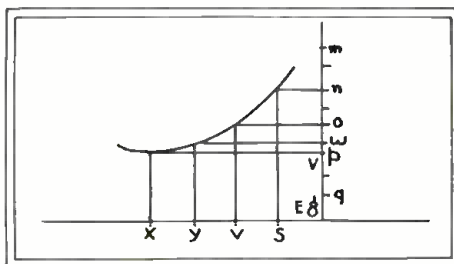

Fig. 7
If we plot all the points for various grid potentials, we obtain a loop as our dynamic or operating characteristic, as shown dotted in the graph. Now, obviously, operating along a loop means that the plate current does not exactly follow the grid-voltage variations. Fig. 7 makes this more clear. Note here that, if we change the grid voltage by one unit (say, from x to y), the plate current may change less than a unit (or from p to r only). But, on the contrary, at some other point of the curve, a change of one unit of grid voltage (as from r to s) may
*The two tubes create the two waves A-B; each, as a result of the distortion explained in Fig. 7, has a distortion component added to the fundamental which represents the signal. By the push-pull circuit, the distortion is canceled out.*